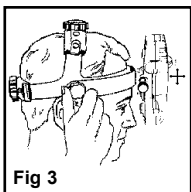

Fig 3
The brow bar may be correctly positioned by loosening (F) the brow bar adjusters. When in the correct position secure by tightening (F) as shown in fig 3.